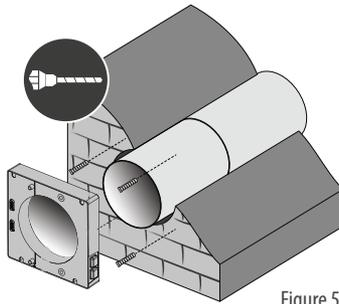

Figure 5
6. Drill holes and insert dowels (Figure 5).